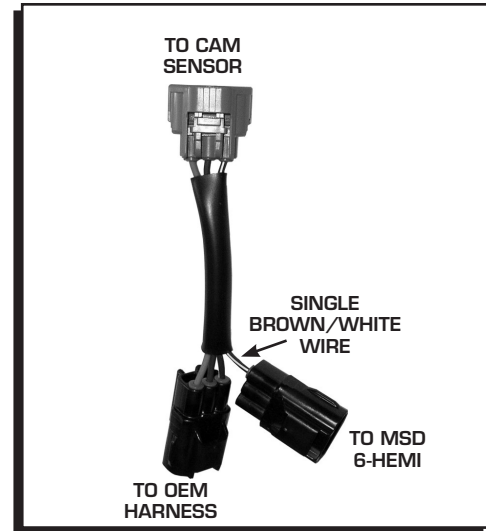

Figure 2 Camshaft Sensor Harness.
3. Connect the male connector with the three wires to the OEM harness (Figure 2).